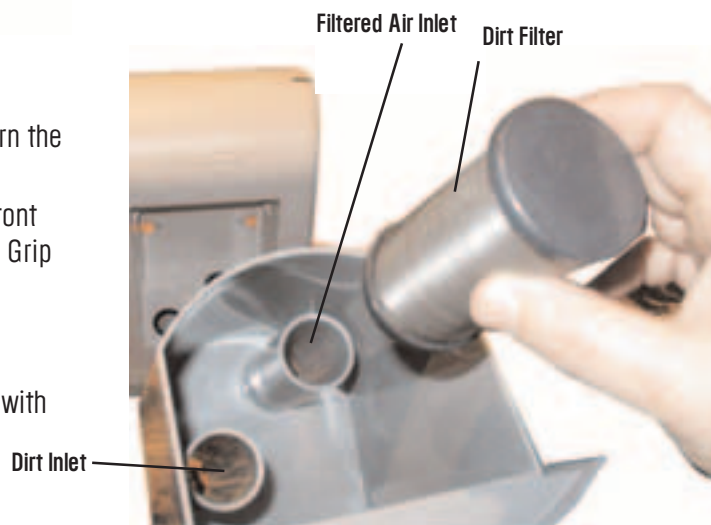

Figure 4
2. Remove the Dirt Filter by pulling straight up and off Filtered Air Inlet. (See Figure 4.) Rinse under running water to clean.